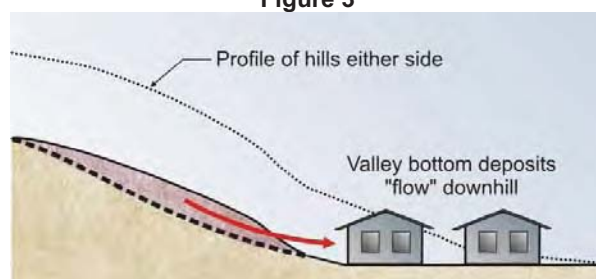

Figure 4
**Debris flows and mud slides (Figure 4)** - may occur in the foothills of ranges, where erosion has formed valleys which slope down to the plains below. The valley bottoms are often lined with loose eroded material (debris) which can "flow" if it becomes saturated during and after heavy rain. Debris flows are likely to occur with little warning; they travel a long way and often involve large volumes of soil. The consequences can be devastating.